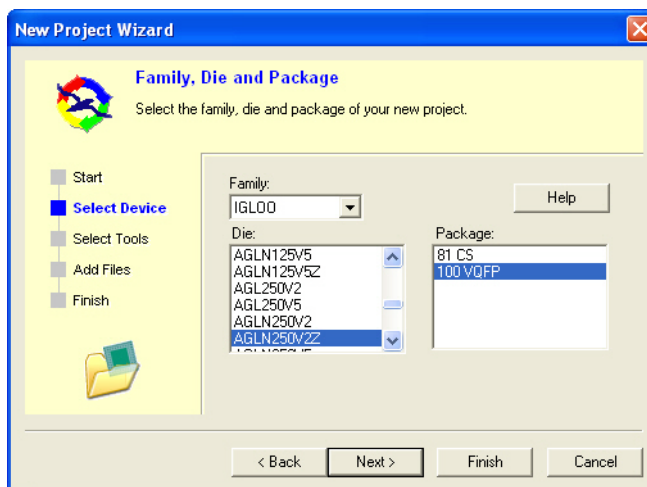

Figure 1-3 • Select the Family, Die and Package
4. Enter the following values for Family, Die, and Package (as shown in Figure 1-3) and click **Next**: